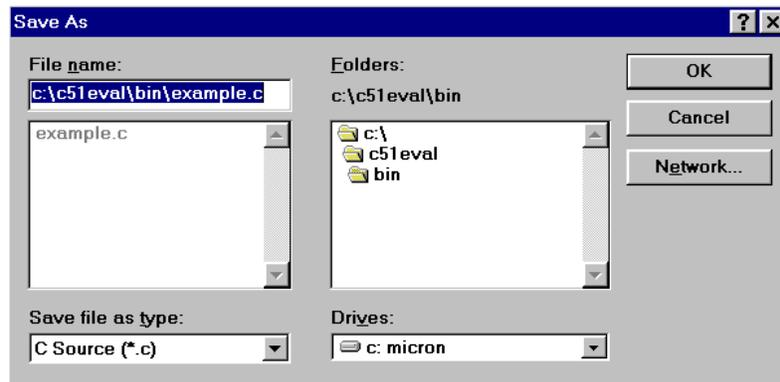
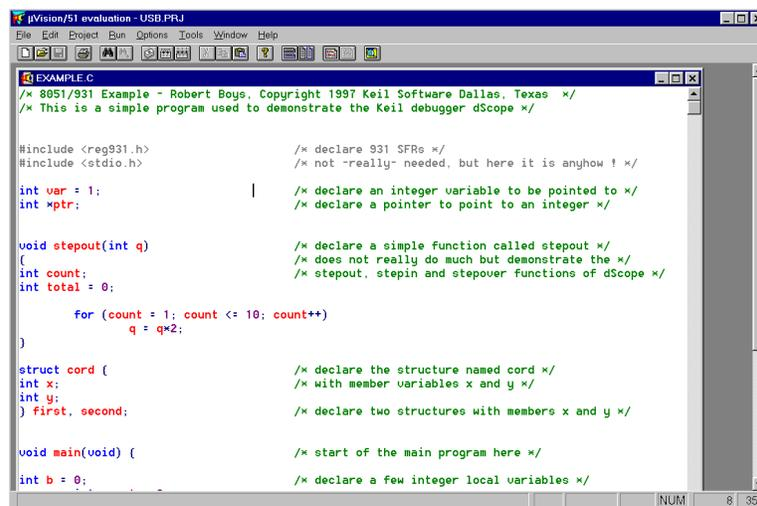

Figure 4
Figure 5
- 1) Do this step if you do not have the source. Open the File menu and choose *New* to go to the  $\mu$ Vision integrated editor. Use the editor to type in *example.c* in Figure 6. It should look like Figure 5. When you have entered the file, do a *save as* to the *c:\c51eval\bin* directory as in Figure 4. The filename should be *example.c* for this tutorial. This will keep things easy to follow.
- 2) If you have the source code as a file, choose *Open* and get *example.c* in the usual fashion. Your window should be similar to Figure 5. Note the color syntax allowing increased readability of your
3) Open the File menu and choose *Save as*. The window similar to Figure 4 appears. Save this file in the indicated directory. This tutorial uses the directory: *c:\c51eval\bin* and the filename *example.c*. Normally your project and source code would be in a directory of your choosing.